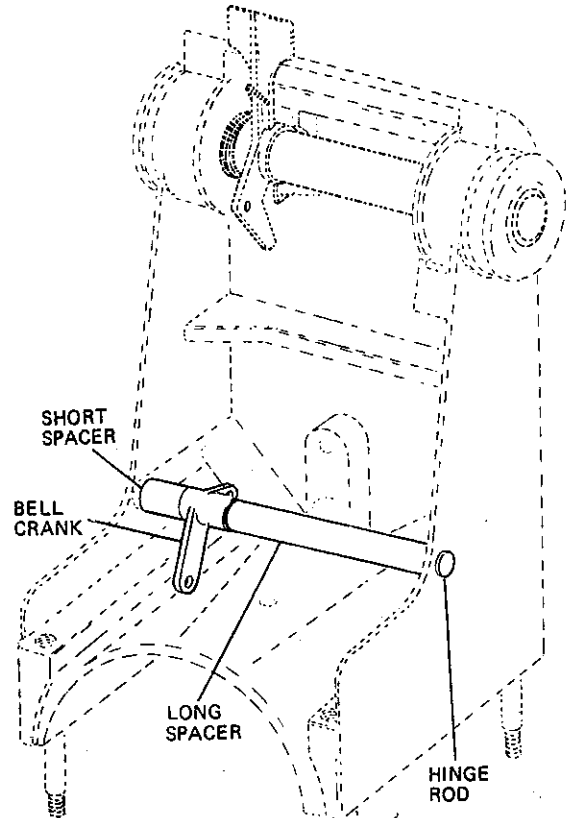

Figure 49. Pictorial view of bell crank and spacers.
- F. Assemble the bell crank, long spacer, short spacer and hinge rod to the swivel bracket (Figure 49).